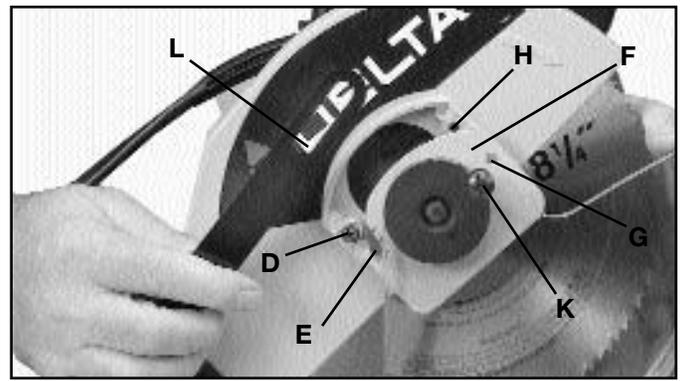

Fig. 7
3. Slide slotted end (E) Fig. 7, of lower guard mounting bracket under screw head (D). Make sure screw and spacer (K) is engaged with slot (L) in guard lifting lever and rotate lower guard mounting bracket (F) until hole (G) in bracket lines up with threaded hole (H) in upper guard.